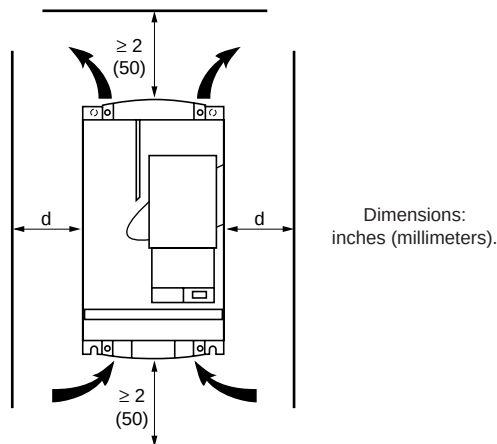

Figure 3: Minimum Clearances
- Figure 3 shows the minimum clearances required around each drive controller for unobstructed air flow. These clearances should not be used as minimum enclosure size for proper thermal dissipation.
Mounting and Temperature Conditions (Refer to Figure 3)
Refer to Fig. 3 for dimension "d".
Refer to Fig. 3